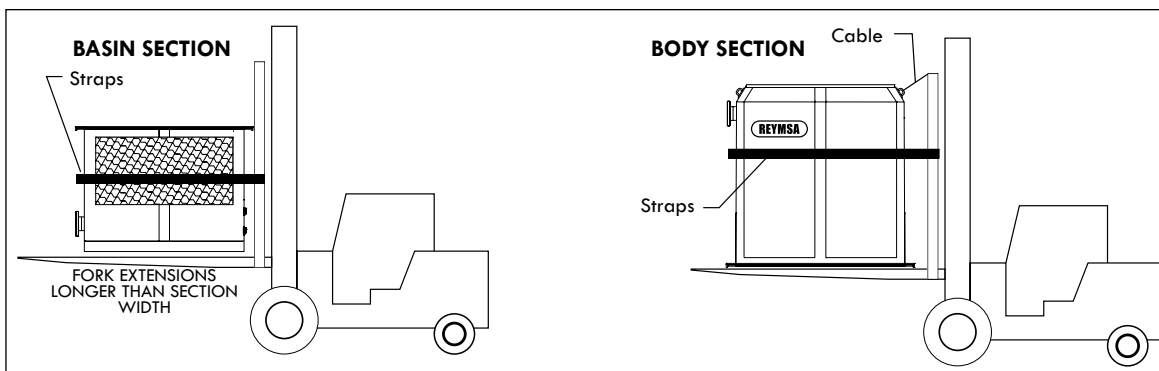
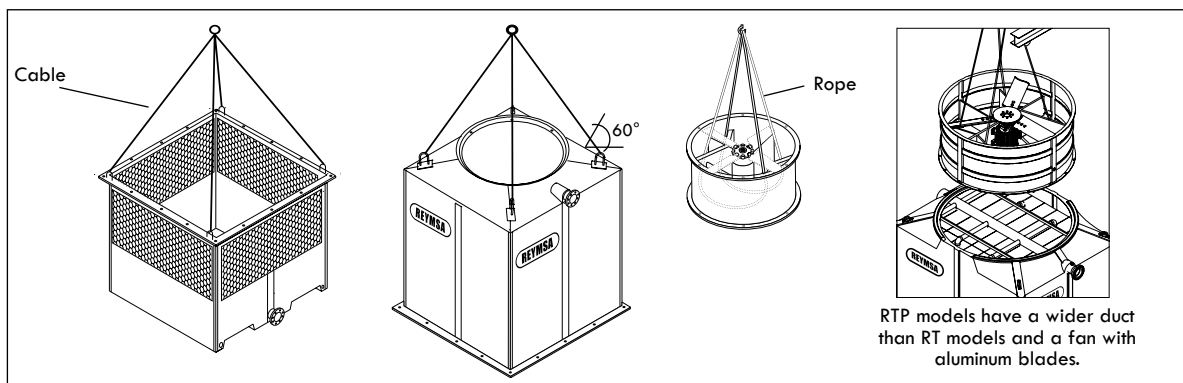

Figure A-3: Single Fan Tower fork lifting
Figure A-4: Single Fan Tower crane lifting
- B.** After verifying the equipment is received in proper condition, proceed to unload it piece by piece, with a crane or forklift of the appropriate capacity (see Figure A-3 and Figure A-4 for reference).
- C.** For crane lifting, it's recommended to use a minimum lifting angle of 60° between the strap and the horizontal. The basin section of the Single Fan towers has U-bolts on the flange for lifting, one on each corner. Place the straps through the u-bolts (as shown in Figure A-4). Don't balance until tensing the straps.